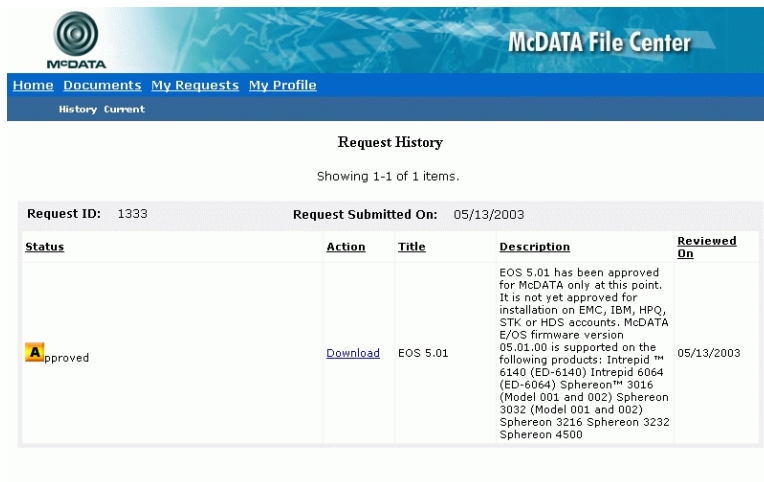

Figure 4-45 McDATA File Center (Request History Page)
7. Click *Submit Request*. The *Request Submitted* page displays and the request for approval is e-mailed to the McDATA Solution Center. Wait five to ten minutes for a response from McDATA, then select (click) the *My Requests* option at the top of the page. The *Request History* page displays (Figure 4-45 on page 4-64) with the approved request.